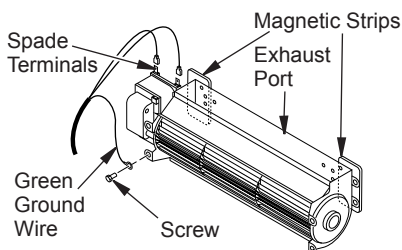

Figure 15 - Blower Model BK
1. Be certain that all wire terminals are securely attached to terminals on blower motor and that the screw retaining the green ground wire is tight (see Figure 15).
2. Place blower against lower rear wall of firebox outer wrapper with exhaust port directed upward. Depending on your model, you may have to carefully route the blower assembly past controls and brackets and position blower inside back opening. The blower will be held in position against the back wall by magnets incorporated onto blower housing (see Figures 15 and 16).